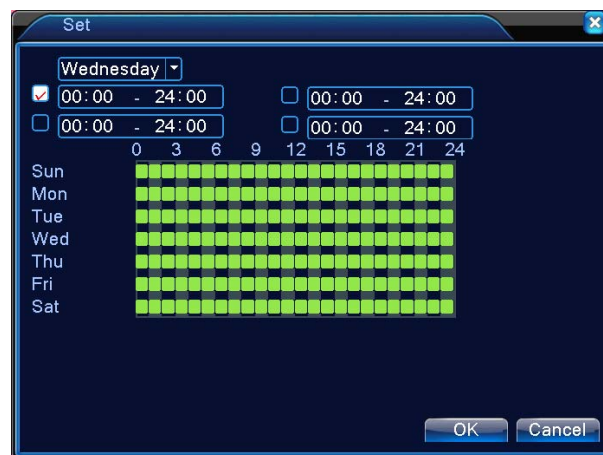

Figure 4.6 Period Set
**Period:** Only in specified time range, does the device trigger the alarm signal of motion detection, as shown in Figure 4.6. It can be set weekly or uniformly. Set four time segments within a day. Select the ☒ before time segment and then specified time is effective.